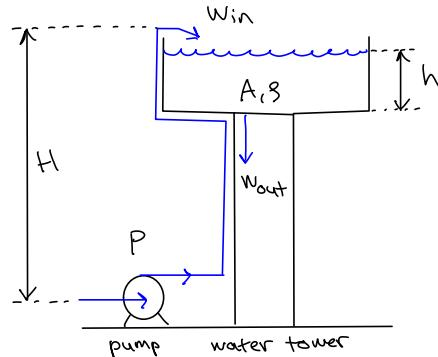

Figure 1: Jacketed continuous process reactor.
- Q6) The water level inside a water tower (see Fig 1) is controlled by manipulating the operating power of a pump, located at the ground level. The tower has a height of  $H$ , and its tank cross-sectional area of  $A$ . The pumping power and the mass flow rate into the tank,  $w_{in}$ , have the following relation: